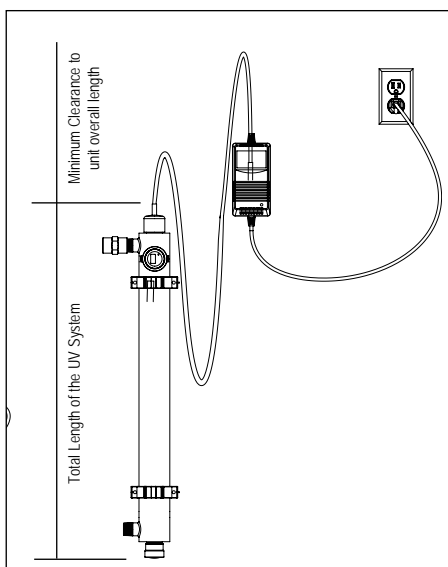

Figure 1A
2. Select a suitable location for the disinfection system and its related components. As it is recommended to install a ground fault protected circuit (GFCI), make sure that this is taken into consideration prior to any installation. The system can either be installed vertically (inlet port at the bottom) (Figure 1A), or horizontally (Figure 1B). When selecting a mounting location, you must also leave enough space to allow for the removal of the UV lamp and/or quartz sleeve (typically leave a space equal to the size of the reactor chamber itself).